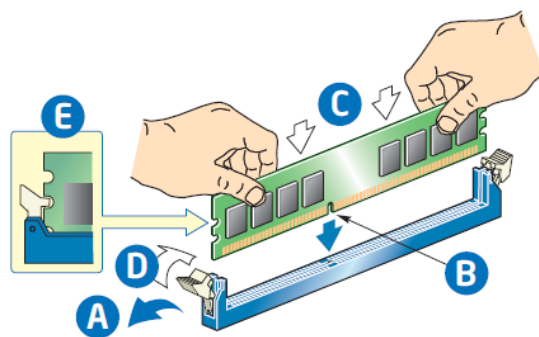

Figure 51. DIMM Installation
2. Open the DIMM slot latches at either end of the selected DIMM socket (see Letter **A** in Figure 51). The DIMM will lift from the socket connectors.